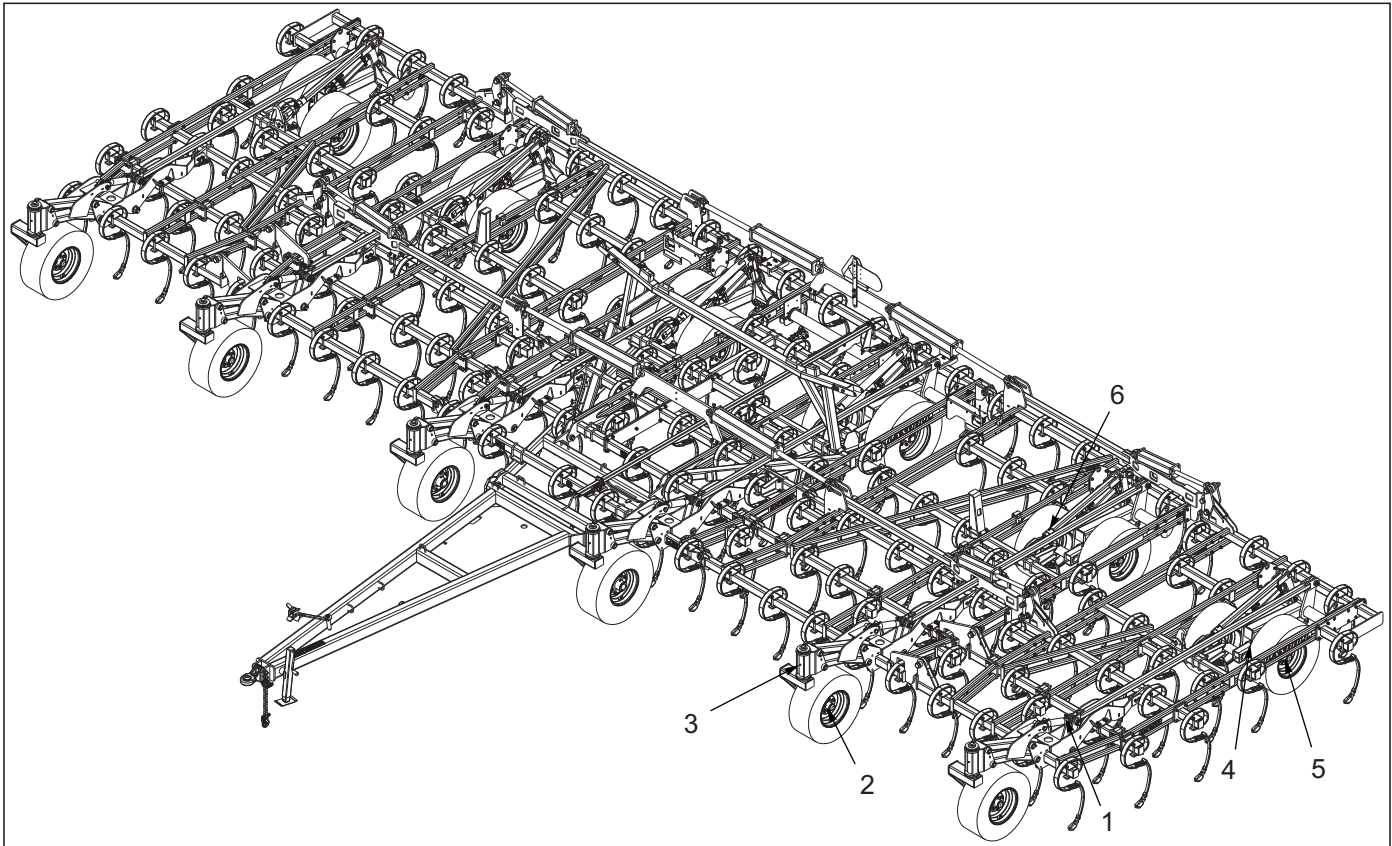

Figure 5-3: Lubrication Points
1. A proper maintenance schedule will insure a long operating life and peak performance. Performing the following lubrication will ensure maximum operating life of the Field Cultivator **See Table 5-1 and See Figure 5-3.**